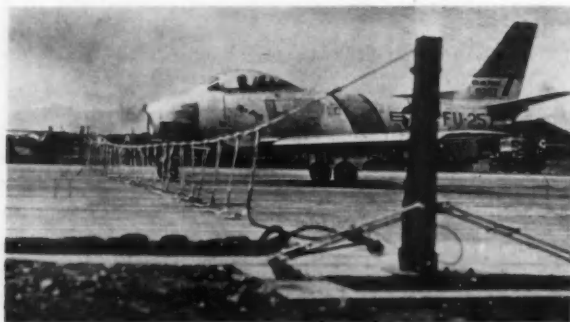

Fig. 1—Plane striking net flips the ground cable in front of the main landing gear. The net trails with the plane.
- **Net pop-up**—A nylon net is stretched across the runway with the arresting cable lying on the ground and lightly attached to the net. When the aircraft rams the net the cable is snapped up to engage the wheel struts. The net is torn loose and stays with the airplane. Little or no extra airplane weight is needed but the system will not work with some airplane configurations. (See Fig. 1)